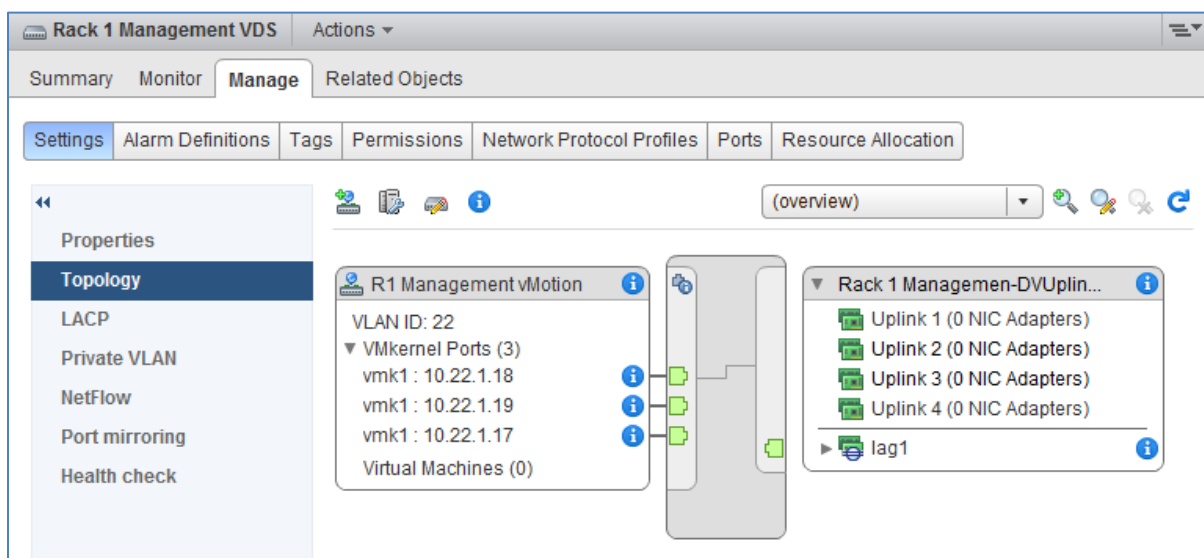

Figure 50 Rack 1 Management VDS VMkernel ports, VLANs and IP addresses
3. In the center pane, select **Manage > Settings > Topology** and click the ► icon next to **VMkernel Ports** to expand. The screen should look similar to Figure 50.
Notice the distributed port group, **R1 Management vMotion** is shown in Figure 50 with its configured VLAN ID and VMkernel ports. Since VMkernel ports were configured for all three ESXi hosts in the Management cluster, there are three VMkernel ports in the distributed port group.